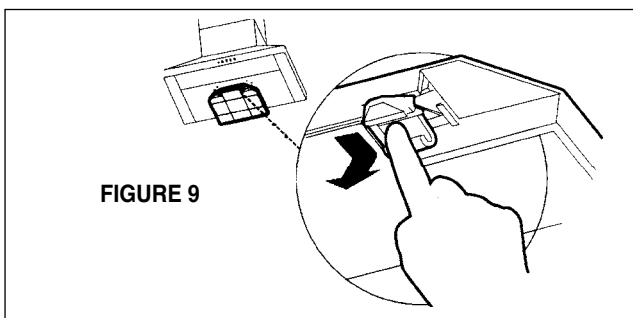

FIGURE 9
2. Install the **CHARCOAL FILTER (6)** behind the center grease filter opening by inserting and locking into place, as indicated in **FIGURE 9**.